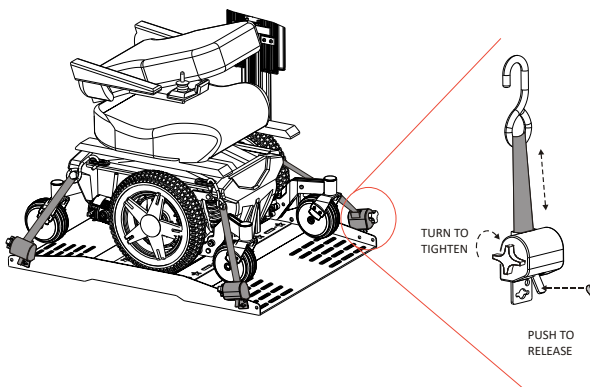

Figure 3-15
3. If the lift has the optional Q'Straint retractors, press and hold the red lever to release the straps and unhook them from the anchor plates, U-bolt, or tie-down loops. *See Figure 3-15.*